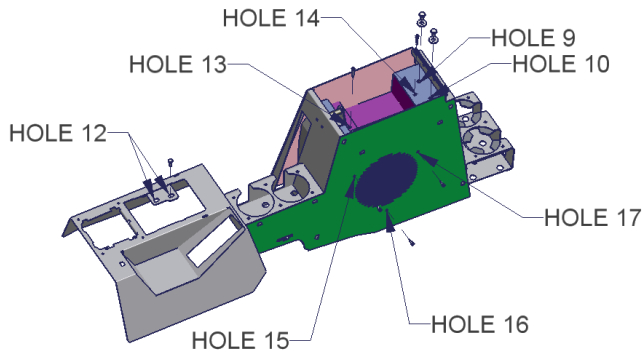

FIGURE 4
32. Attach the front shift lever console to the drink holder using (2) 1/4-20x1/2" Phillips pan head screws. (SEE FIGURE 4)